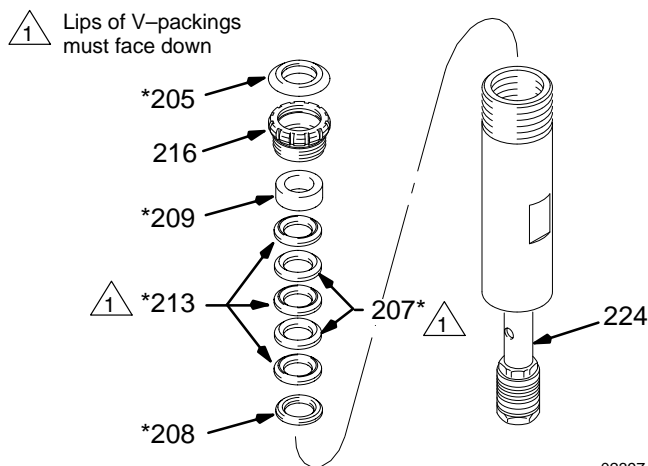

Fig. 15 02397
3. Remove the packing nut (216) and plug (205). See Fig. 15.
4. Tap the piston rod (224) down with a plastic mallet, and then pull the rod out the bottom of the cylinder.
5. Remove the throat packings (207, 213) and glands (208, 209). See Fig. 15.